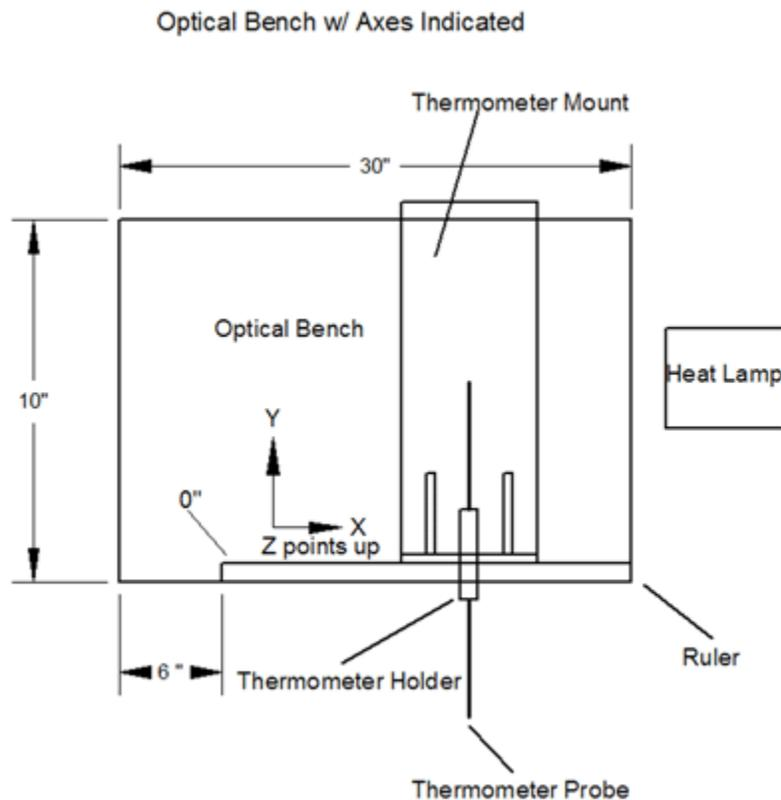

Figure 23. The diagram shows the 3D coordinate system used for on-axis testing.
1. The first test you will make is to measure the on-axis temperature rise as a function of ruler distance on the optical axis of the MMA. It will help to define a 3D system of coordinate axes as shown below in Figure 23. We will call distance along the ruler X, with Z pointing right up at the ceiling, and the horizontal distance between the pointy end of the thermometer probe and the ruler called Y.